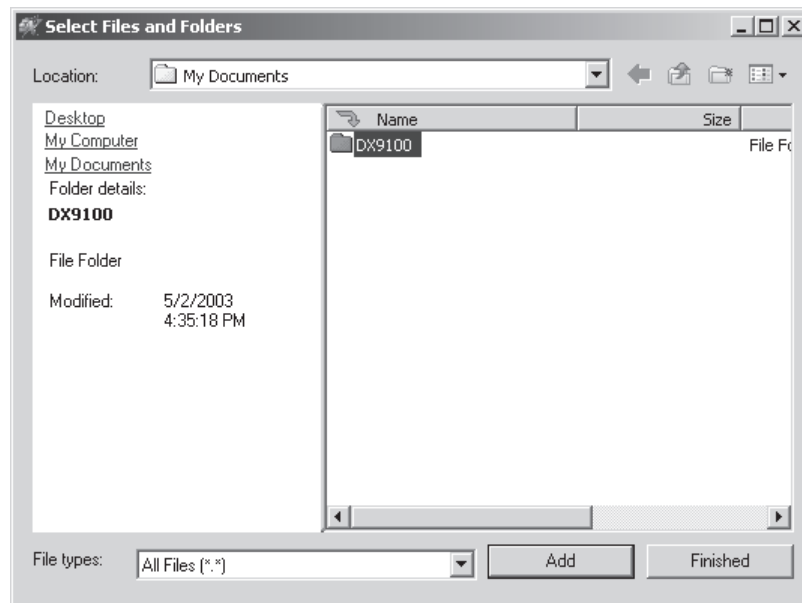

Figure 63. Select Files and Folders Window
6. Select a file or folder, and then click Add. Figure 63 shows a DX9100 folder.